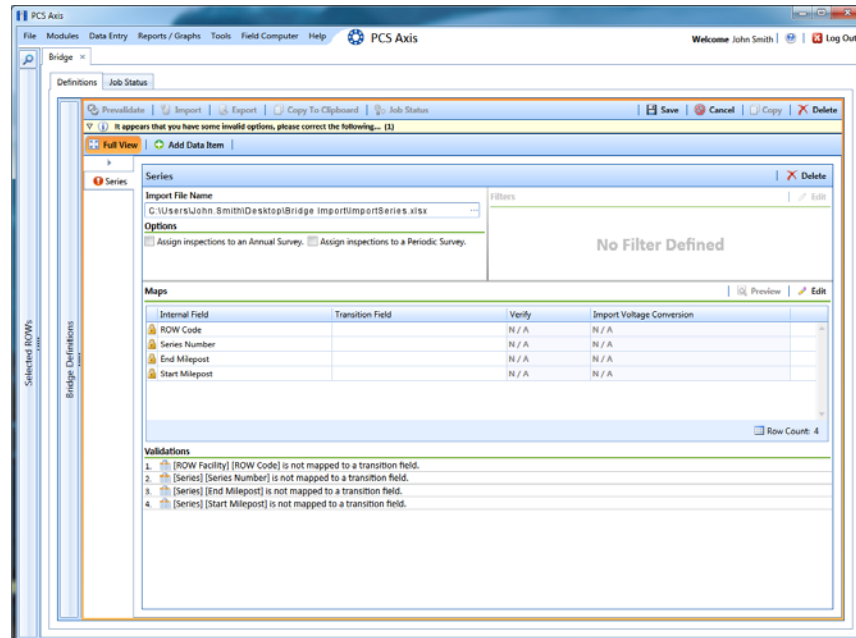

Figure 9-51. Definition
- 8 Identify the location of the import transition file using the following steps (Figure 9-51, page 438):